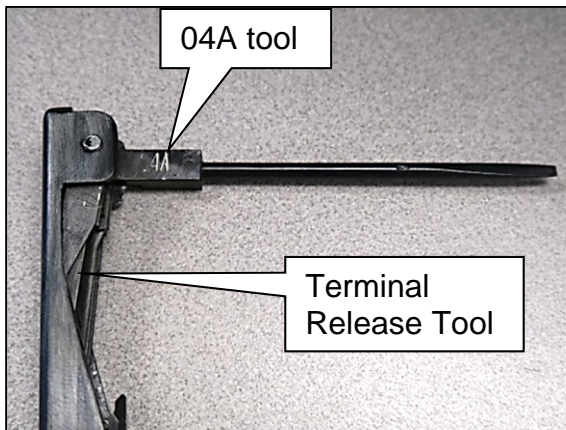

Figure 22
20. Using the 04A tool of the Terminal Release Tool, special tool J-48817-1 (Figure 22), remove the Terminal Position Assurance (TPA) from the B42 wire harness connector.